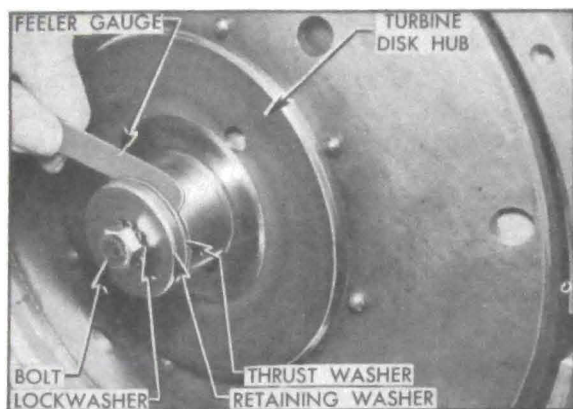

Figure 5-103—Checking Turbine Clearance
15. Install selective thrust washer, retaining washer, and bolt with external tooth lock-washer on front end of input shaft. See figure 5-103. Shift into "Parking" and pry up on reverse band operating lever with screwdriver to lock input shaft, then tighten bolt to 30-35 ft. lbs. torque.
gauges. Clearance should be between .002" and .009". See figure 5-103.